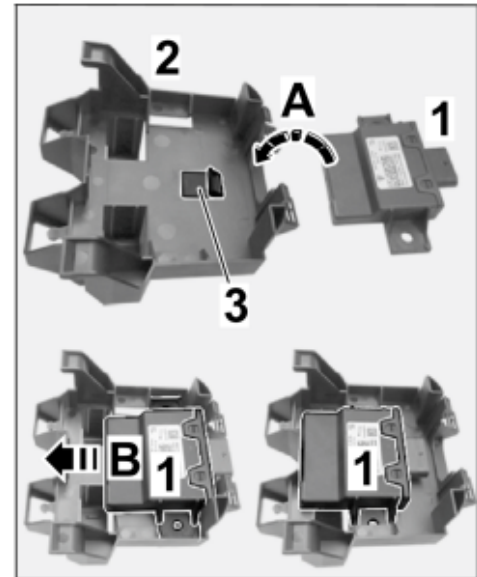

Figure 12
2.1.2 Insert the engine noise control unit at the underside in the control unit holder (⇒ *Figure 12 -A-*).
2.1.3 Push the engine noise control unit in the holder to the opposite side of the plug connection (⇒ *Figure 12 -B-*) until control unit engages in the holder.